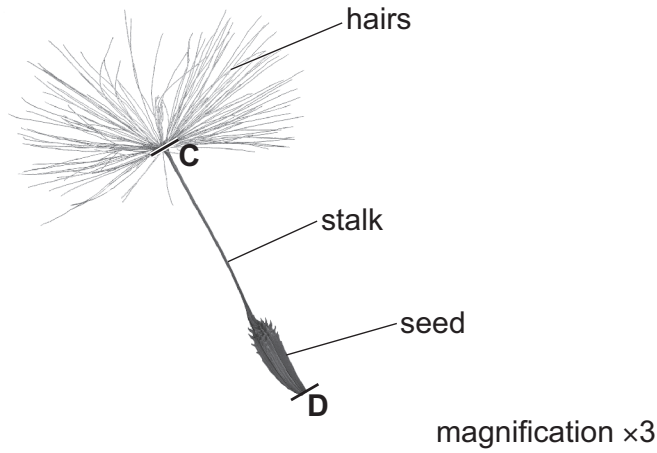

Fig. 3.1
- 3 Fig. 3.1 shows the whole of a one-seeded fruit of a dandelion flower. A single dandelion flowerhead can produce up to 200 of these one-seeded fruits. The mass of a single fruit is 0.0005 g.
- (a) (i) In the space below make a large drawing of the whole fruit as it appears in Fig. 3.1.
(ii) The lines **C** and **D** indicate the total length of the seed and stalk. Draw a straight line on Fig. 3.1 to join **C** and **D**. Measure the length of the line and record it.